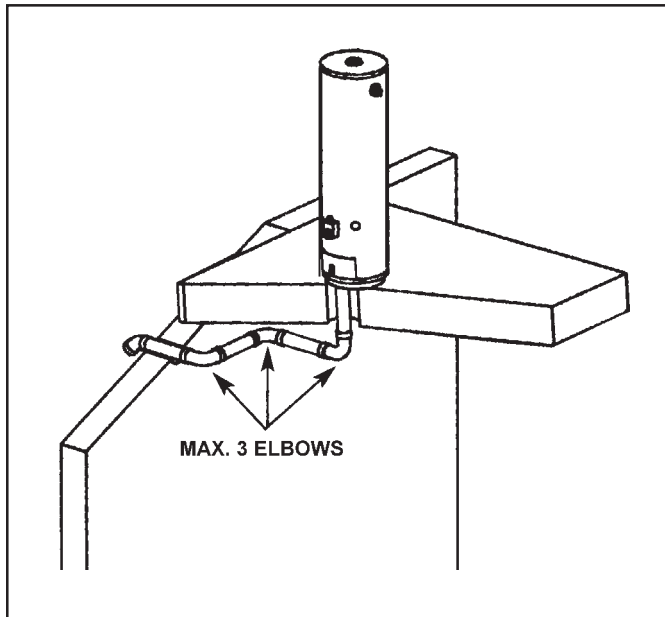

FIGURE 22.
- The intake air vent piping can be installed with no more than 3 elbows, see Figure 22.